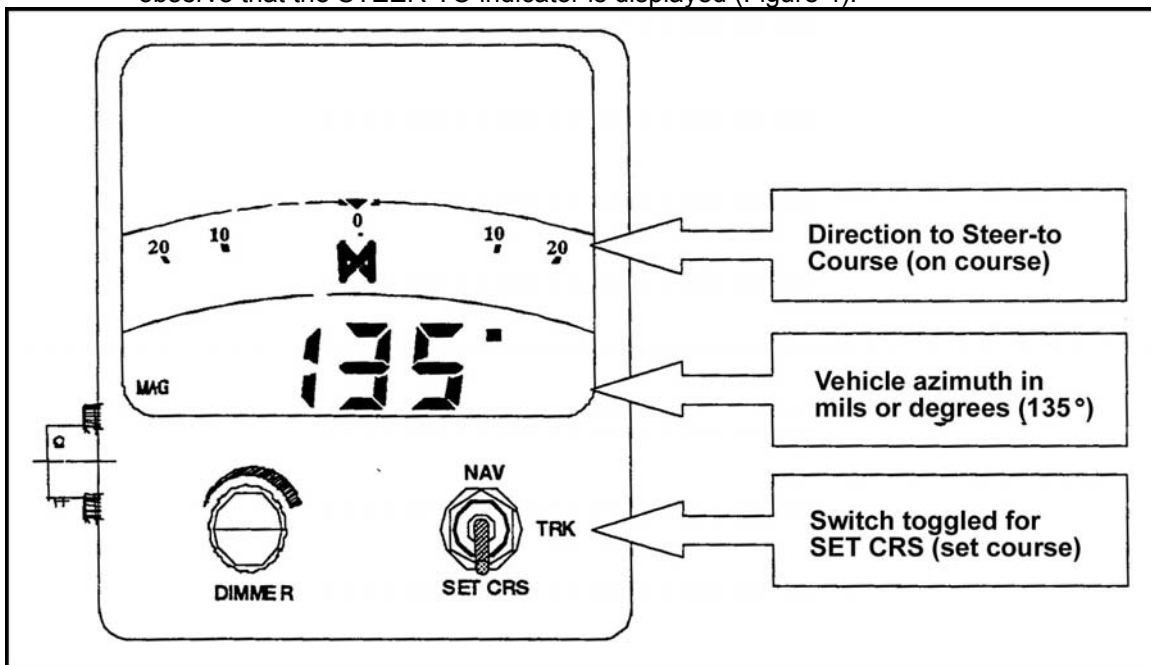

Figure 4. DCD set course mode.
- (3) Depress the mode switch to the SET CRS position and release for a second time and observe that the STEER-TO indicator is displayed (Figure 4).